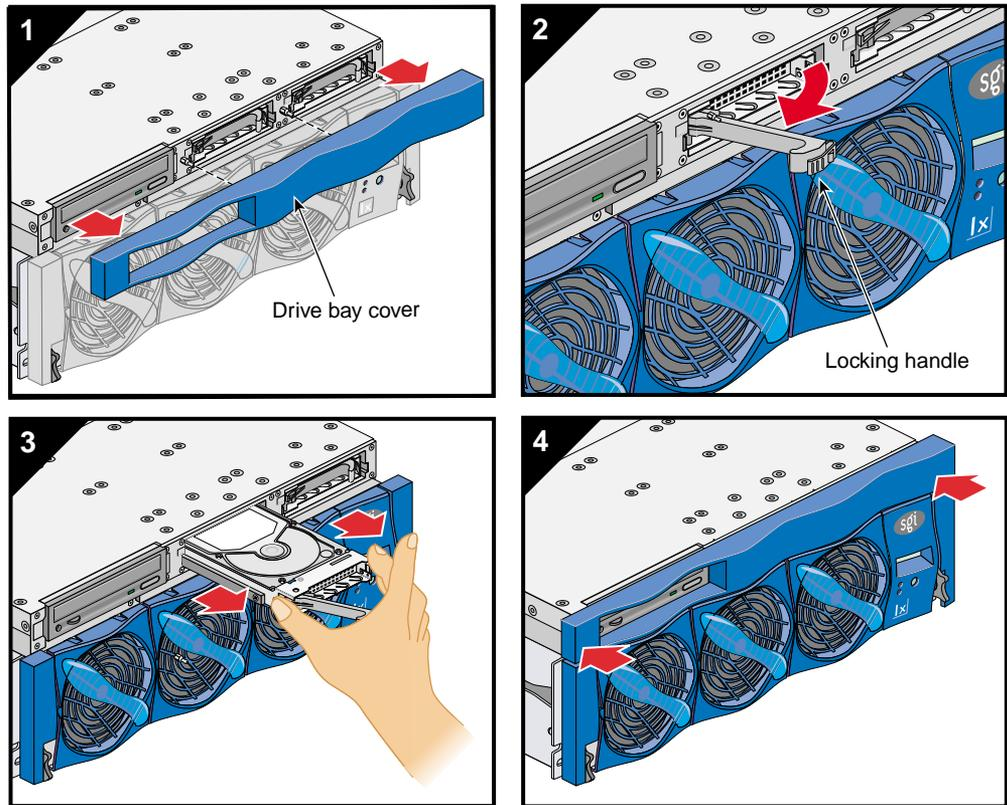

Figure 19 Removing a SCSI Disk Drive
To remove a SCSI disk drive, follow these steps (see Figure 19):
1. Pull off the drive bay cover to access the two SCSI disk drive slots, as shown in panel number 1 of Figure 19. (If you will have only one SCSI disk drive, it must be in the rightmost slot.)